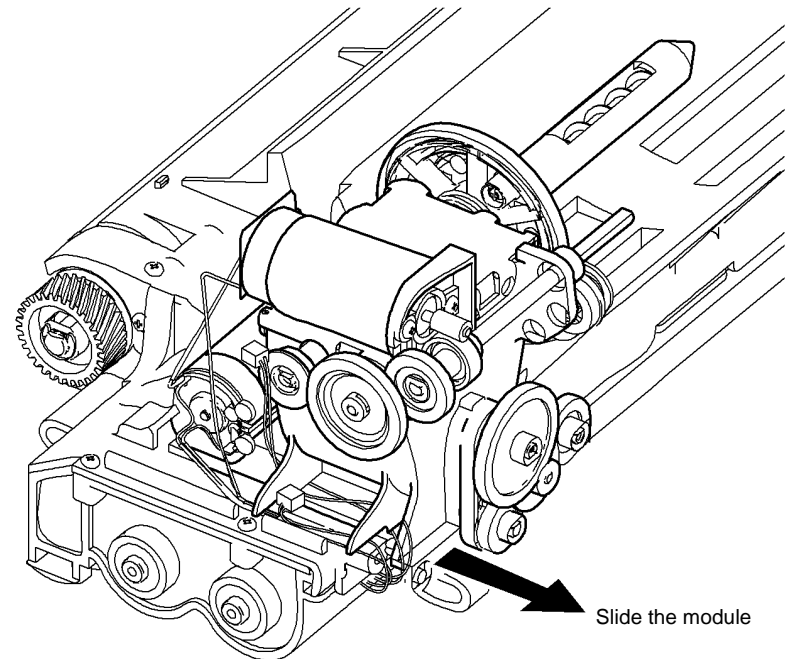

Figure 3 Remove the toner dispense module
5. Remove the toner dispense module by sliding it off the developer assembly, Figure 3.